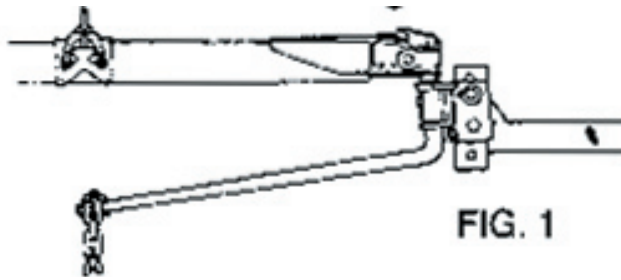

FIG. 1
4. Rivet (12a) and 8 spacer washers (12b) are supplied in order to gain correct downward angle of spring bars. Insert rivet, and depending on angle or slope of bars that must be gained, use either 8 or the least amount of washers necessary in order to establish correct angle. (See Fig. 1, 2, and 3 below). The rivet and its accompanying washers are placed in the 1/2" hole between "U" on ball mount to acquire desired angle of spring bar. Once spring bar angle has been determined, insert top bolt (12f) with flat washer (12c)... both sides and lockwasher (12d) and nut (12g) to secure unit in correct position, now insert bottom bolt (12e) use lock washer (12d) and nut (12g). Before tightening bolts, lock set screw (4125). (After first day of towing, check set screw for tightness.